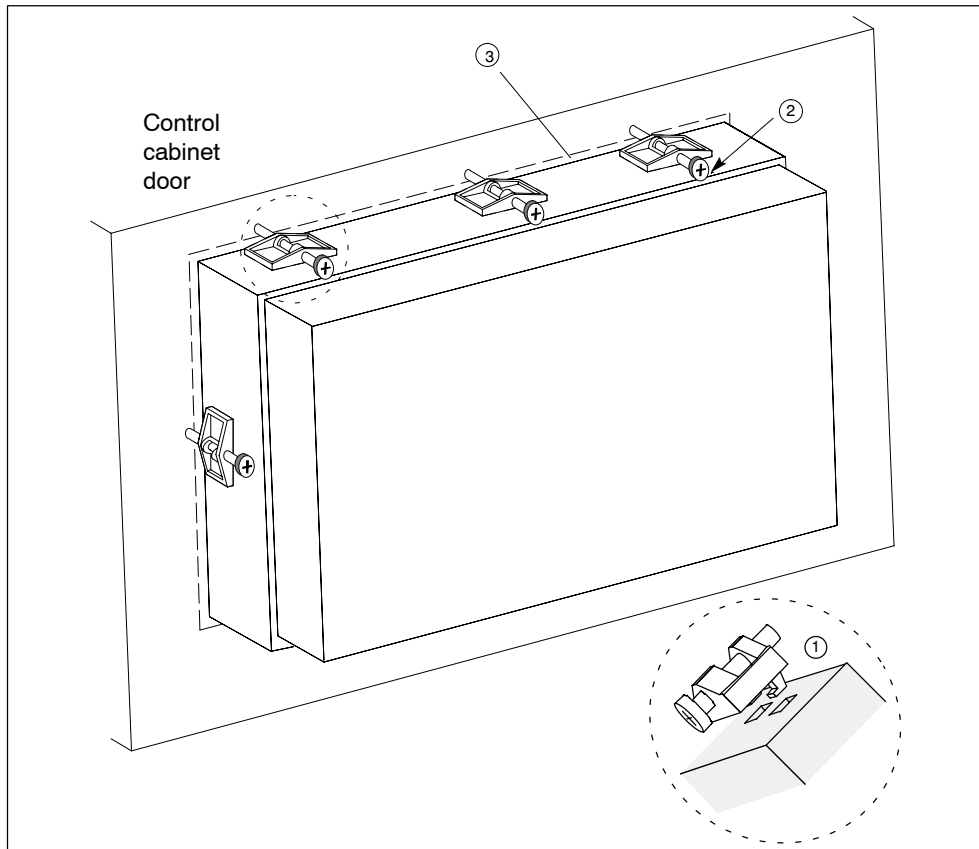

Figure 3-2 Mechanically Fastening the C7-635 Touch
| 4.   | Guide the fastening hooks of the provided mounting supports ① (for the C7-635 Touch, 8 mounting supports; for the C7-635 Key, 10 mounting supports) into the intended recesses in the C7-635 housing. Figure 3-2 provides an example of the mechanical fastening of the C7-635 Touch. |